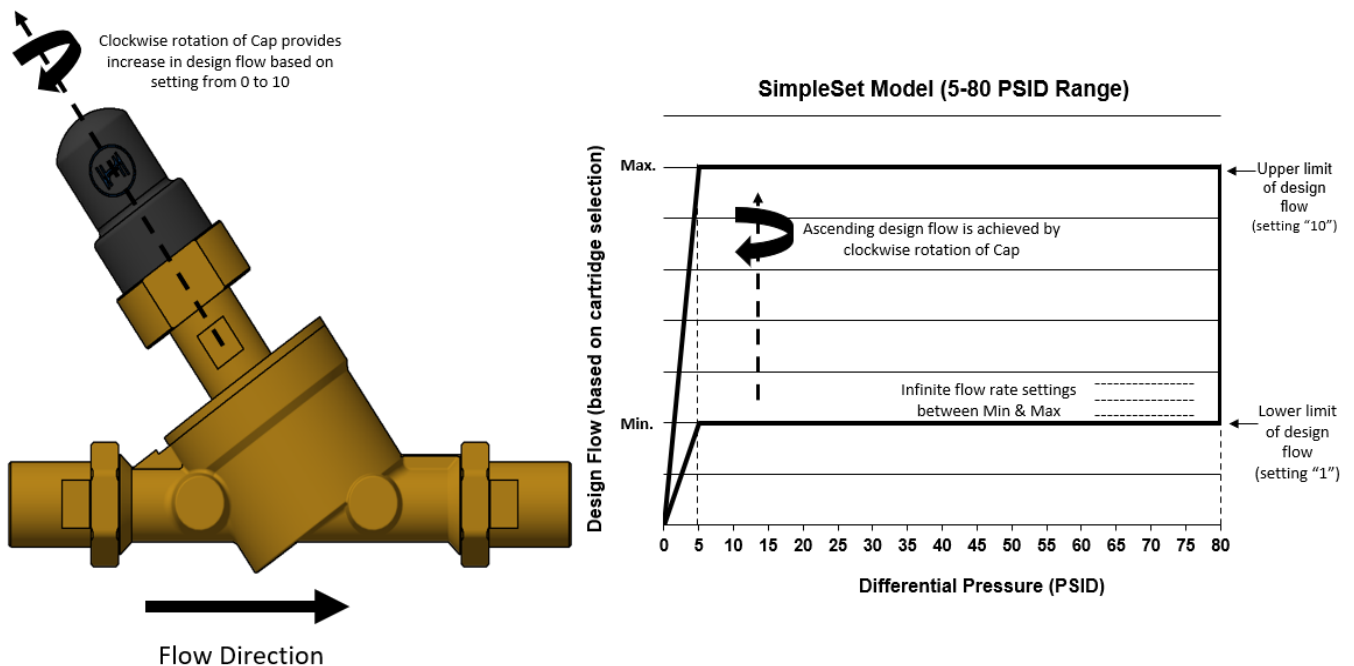

Figure 1: Operation of SimpleSet® model
5. To adjust the flow rate within the available range on specified model, rotate the cap either anti-clockwise or clock-wise to set different flow rates. The model will be set to the lowest design flow rate available from the range selected. Clockwise rotation of the cap will allow one to increase the flow rate within the specified cartridge selected. Similarly, anti-clockwise rotation of the cap will decrease the flowrate in respective range. See Figure 1 below for a representation of the general operation of SimpleSet® model.